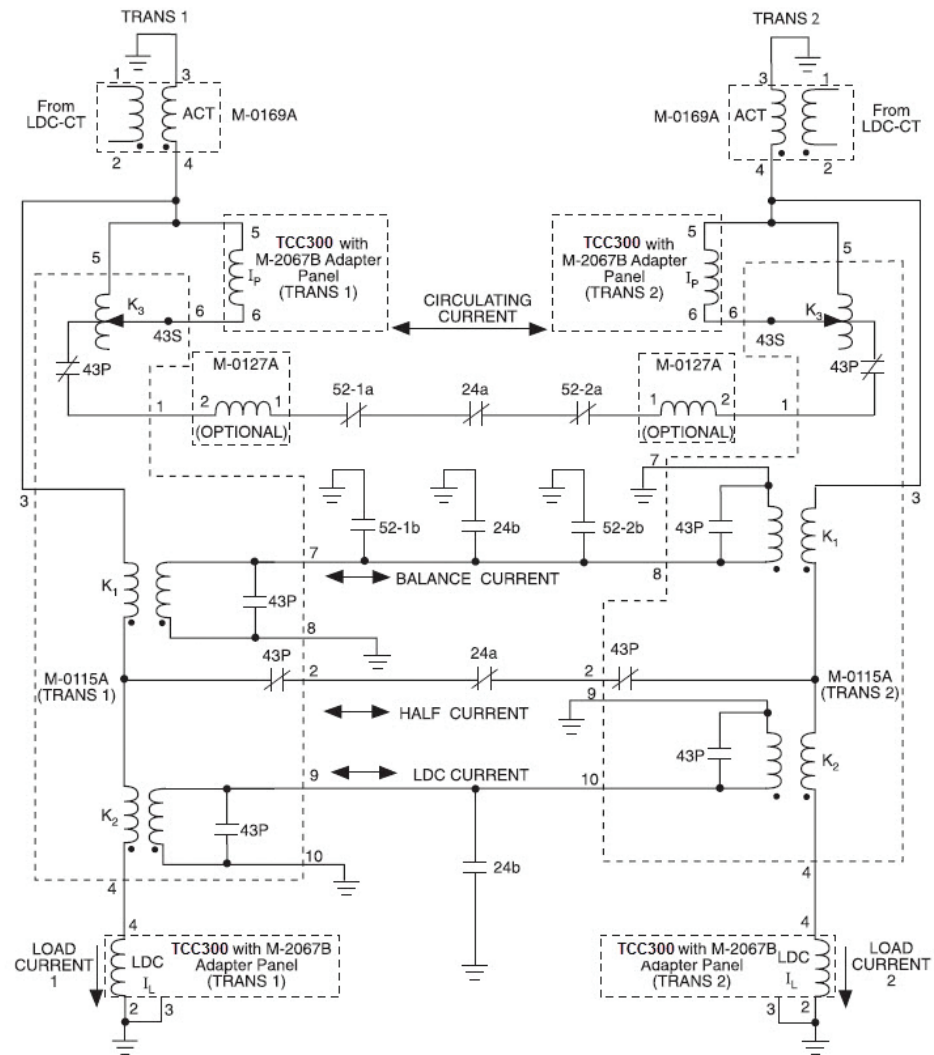
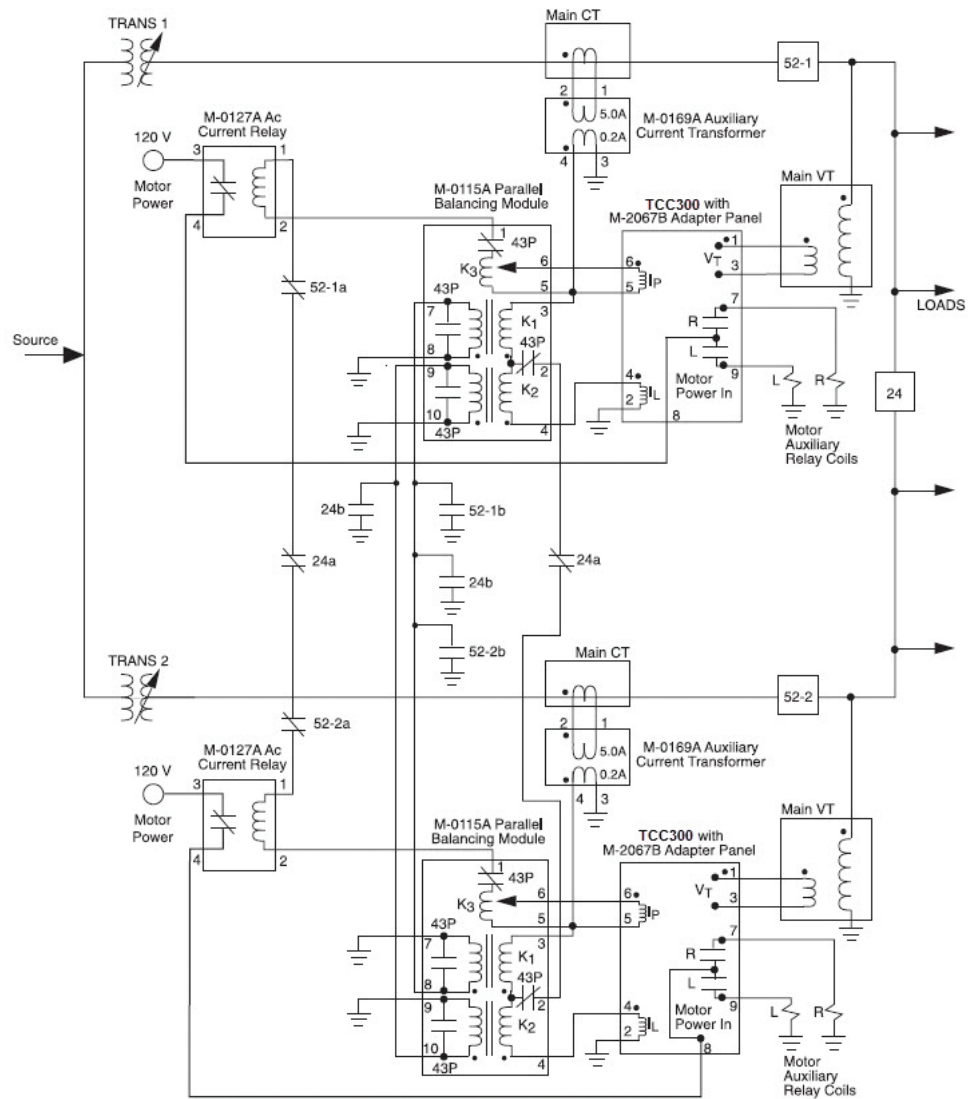
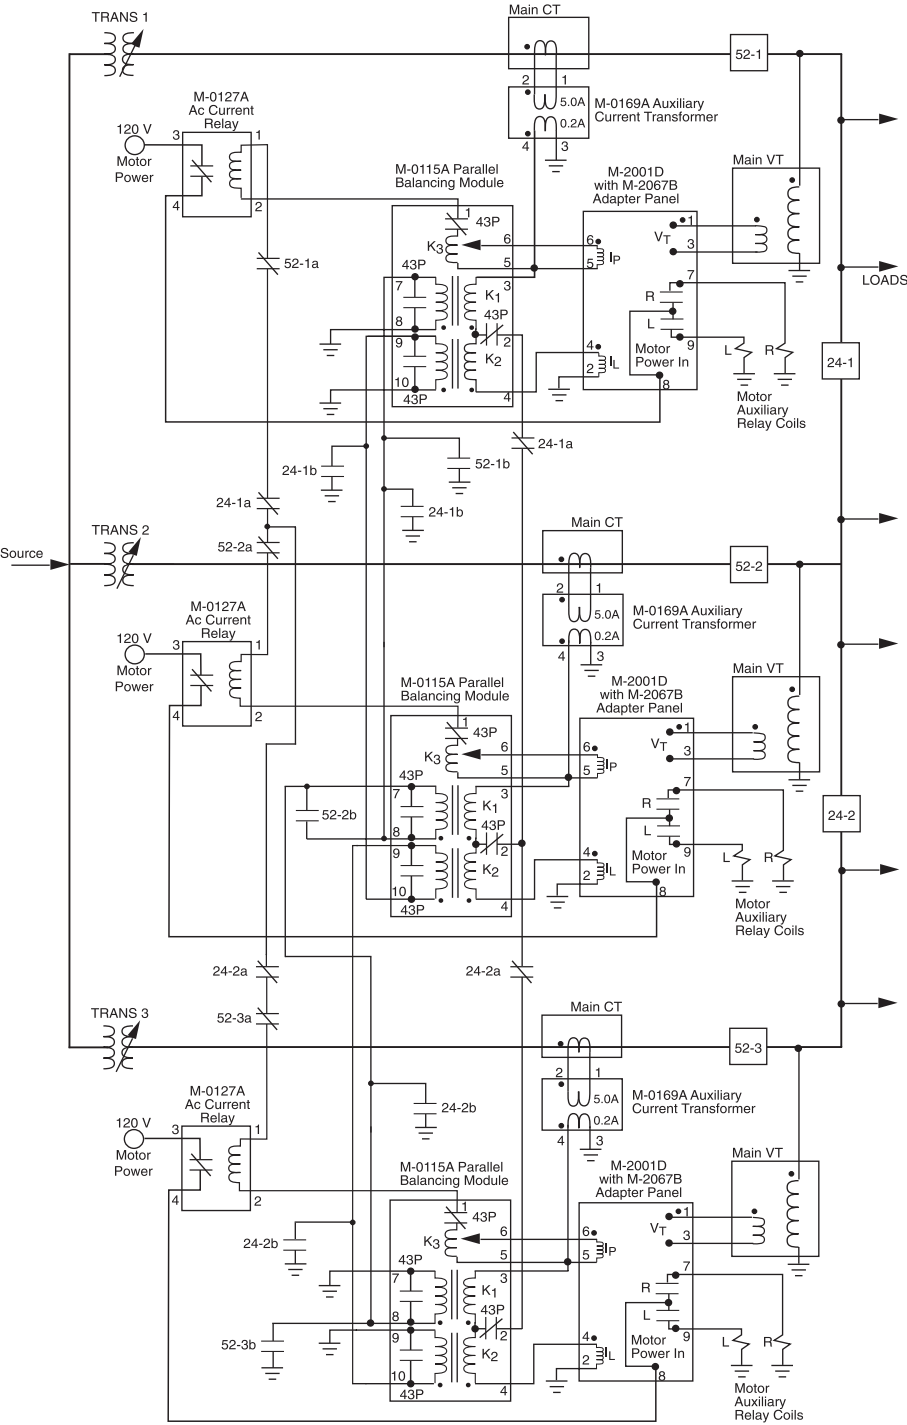

Figure 329: Simplified Schematic of Current Circuit for TCC300 Paralleling Two Transformers using the Circulating Current or ΔVAR° Method
Figure 330: TCC300 and TCC300M2067 Paralleling Scheme for Two Transformers using the Circulating Current or ΔVAR° Method
Figure 331: *TCC300 and TCC300M2067 Paralleling Scheme for Three Transformers using the Circulating Current or ΔVAR° Method*
The general paralleling schemes for two and three transformer paralleling using the circulating current method are shown in Figure 329, Figure 330 and Figure 331.
Figure 329 is a schematic of the current circuit only; redrawn from the Paralleling Scheme figures to allow easier tracing of the load current (IL) and circulating current (Ip) paths.